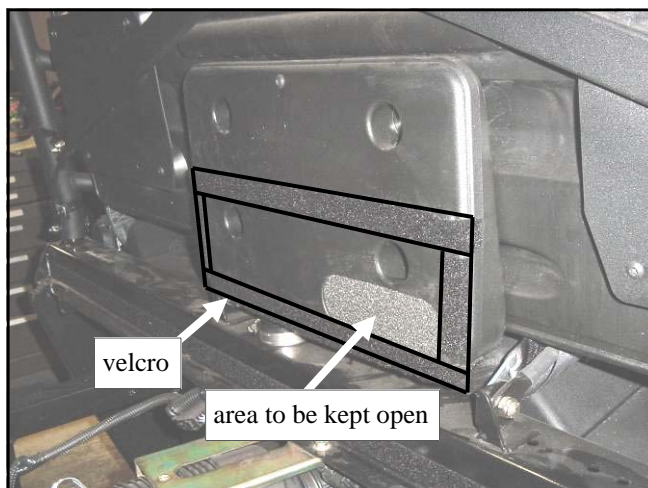

Fig. 9.7 (view from rear of passenger's side)
9.7 Per fig. 9.7, apply velcro in a rectangular pattern as shown by the heavy black lines in the photo. Note: the opening in the vinyl rear curtain is to allow air flow in the lower right hand corner where the foam filter is located.